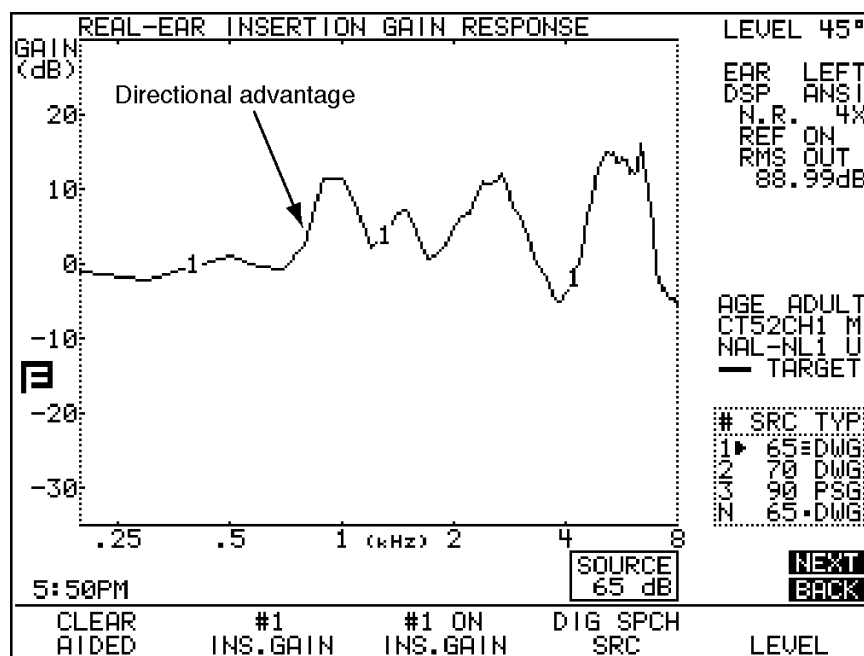

Figure 4.4.4C—Amount of amplification advantage provided by the directional microphones
15. Press [NEXT] to enter the Insertion Gain screen. The displayed measurement curve is the difference between the "forward" and the "reverse" measurements, or the amplification advantage provided by the directional microphones of the hearing aid. See Figure 4.4.4C.